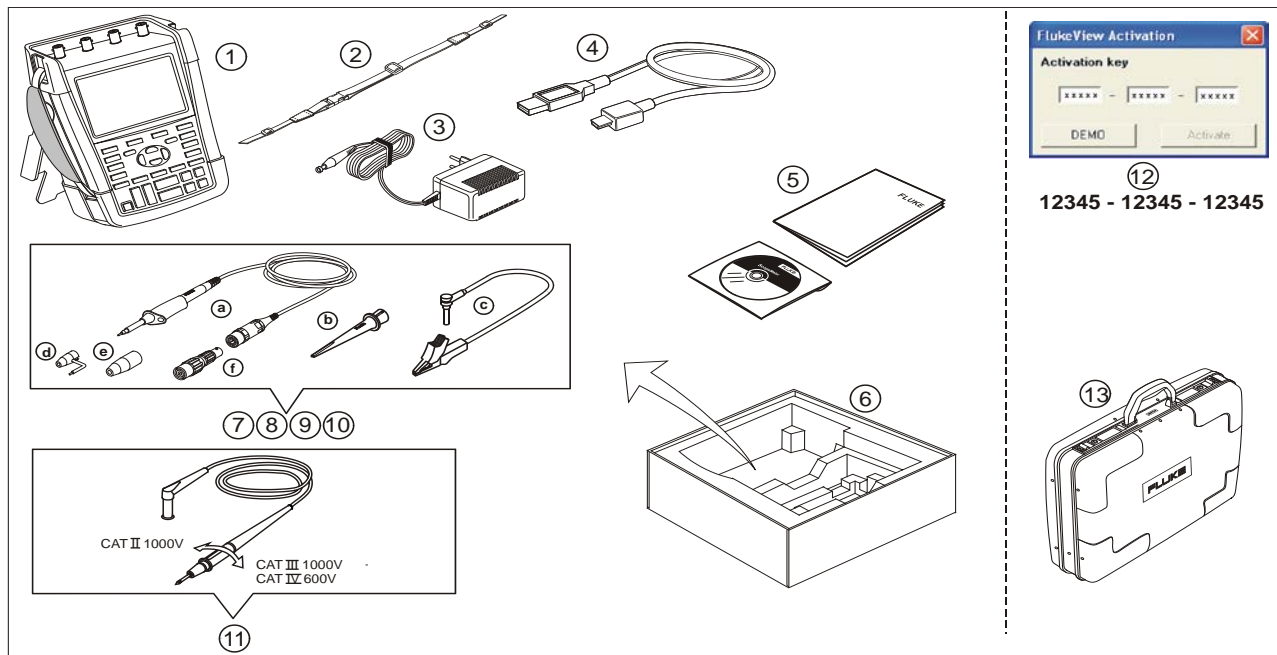

Figure 1. Test Tool Kit
The items in Figure 1 are included in your test tool kit:
| 3 | Power Adapter (country dependent, may vary from what is shown in Figure 1) |
- Do not connect the ground spring (figure 1, item d) to voltages higher than 42 V peak (30 Vrms) from earth ground.
- When using the ground reference lead with any of the probes, make sure that the black isolation sleeve (Figure 1, item. 10e) is over the probe tip.